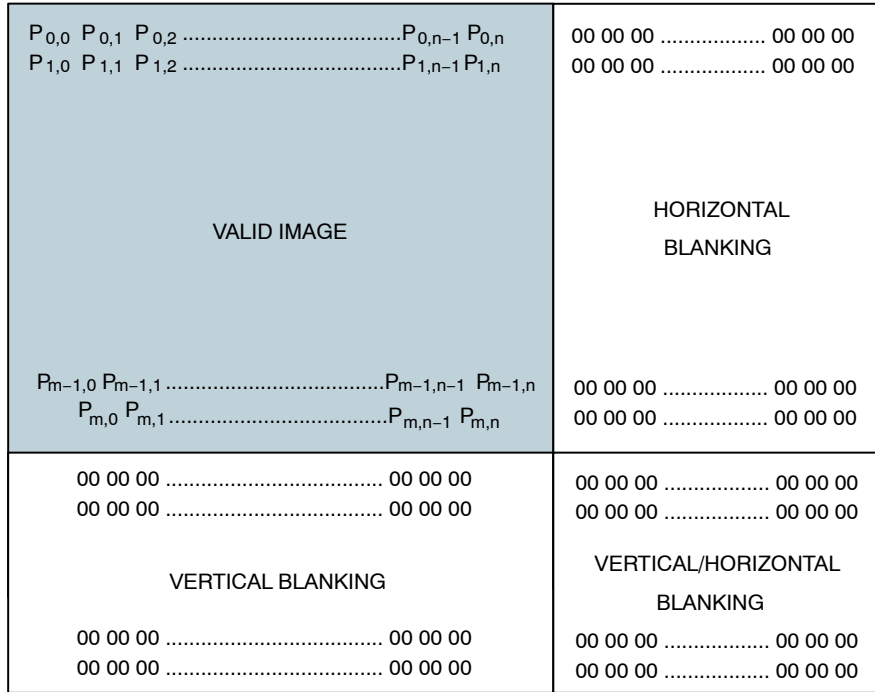

Figure 7. Spatial Illustration of Image Readout
The MT9M034 image data is read out in a progressive scan. Valid image data is surrounded by horizontal and vertical blanking (see Figure 7). The amount of horizontal row time (in clocks) is programmable through R0x300C. The amount of vertical frame time (in rows) is
programmable through R0x300A. Line\_Valid (LV) is HIGH during the shaded region of Figure 7. Optional Embedded Register setup information and Histogram statistic information are available in first 2 and last row of image data.
Sensor timing is shown in terms of pixel clock cycles (see Figure 7). The recommended pixel clock frequency is 74.25 MHz. The vertical blanking and the total frame time equations assume that the integration time (coarse integration time plus fine integration time) is less than the number of active lines plus the blanking lines: